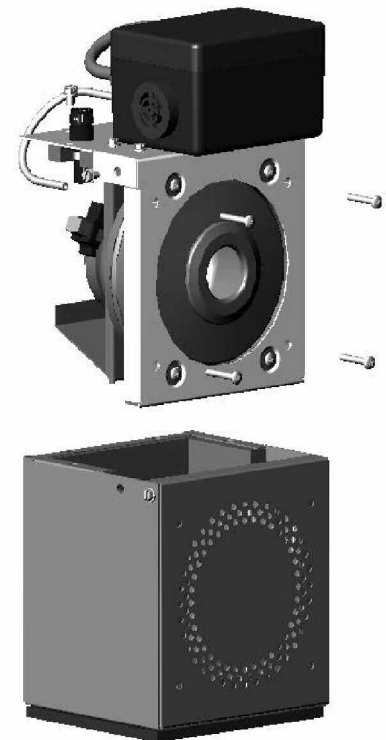

Figure 13 - Blower Removal
2. Remove plastic tube from barb fitting and lift alarm assembly, enclosure cover and blower from the blower enclosure box (see fig 13).